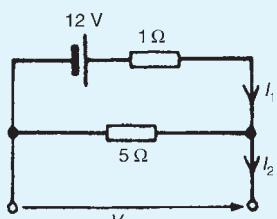

Figure 13.91
4. For the circuit shown in Fig. 13.91, voltage  $V$  is:
5. For the circuit shown in Fig. 13.91, current  $I_1$  is:
6. For the circuit shown in Fig. 13.91, current  $I_2$  is: